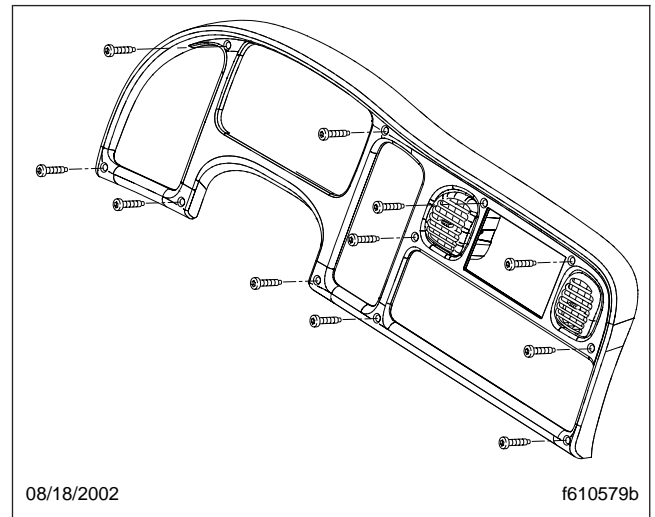

Fig. 2, Dash Trim Piece
2. Remove the dash trim piece by removing the 11 capscrews that secure it. All fasteners for this procedure are 10–16 Torx® capscrews. See Fig. 2.